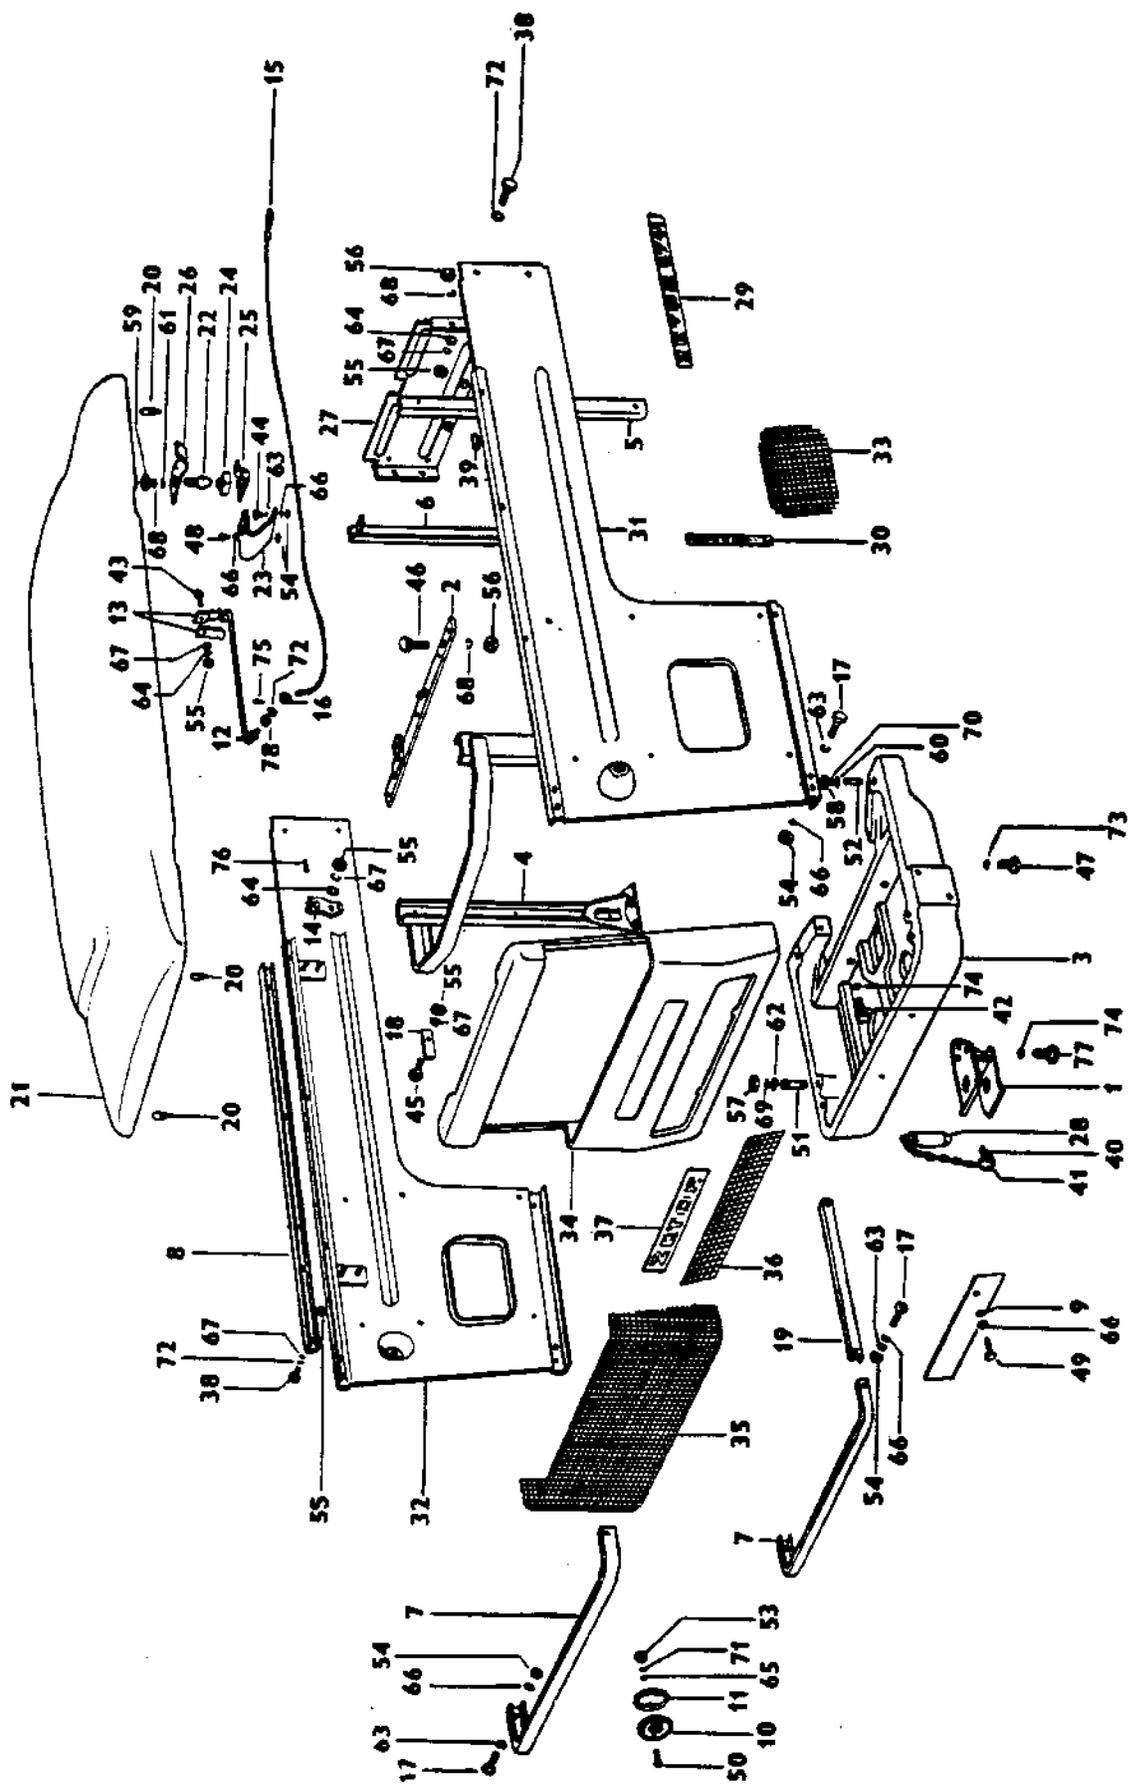

Fig. 1
2. Unscrew two nuts M 6 (Fig. 1/55) from the hood clamps and remove the hood.
3. Unscrew eight bolts M 6 (Fig. 1/38) attaching the RH side plate to the holders and dismantle the side plate c/w headlamp.
2. Unscrew two nuts M 10 on the RH and LH sides of the front holder (Fig. 1/4) and remove the holder.
2. Unscrew two bolts M 8 of the gib (Fig. 1/2) connecting the RH and LH webs and remove the gib.
3. Slacken three bolts M 6 on the LH and RH side plates (Fig. 1/5, 6).
2. Unscrew four nuts M 8 attaching the rear holder (Fig. 1/27) to the engine and extract the holder.
1. Dismount the silon string of the hood (Fig. 1/15).
3. Unscrew per eight screws M 6 (Fig. 1/38) on right-hand and left-hand sides of the side plate.
1. Tilt the hood off and secure it in place by the strut (Fig. 1/12).